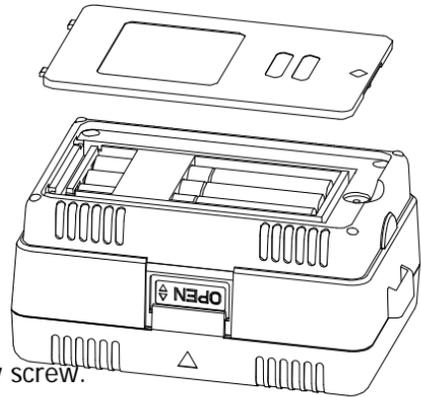

figure 4
7.1.1 Replacing battery and repair (please see figure 4) After low battery indicator show, replacing battery immediately as follows:
- c. Replacing all old battery (6) with new battery.